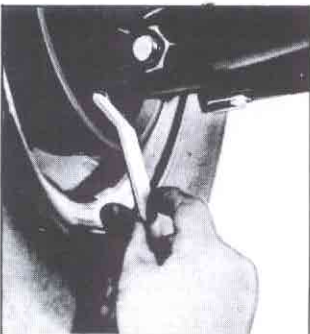

Fig. 44—Brake Adjustment
2. Through hole in flange plate, insert screw driver or similar tool and engage it in teeth of adjusting wheel (fig. 44).